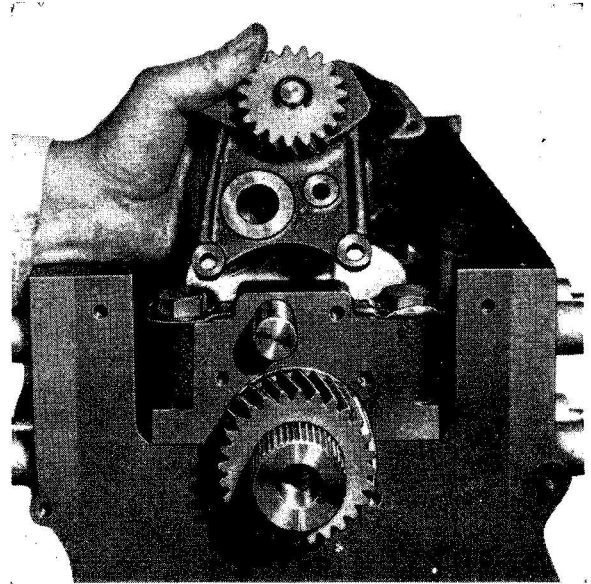

Fig. 7
7. Remove the three setscrews securing the pump to No. 1 main bearing cap and withdraw the pump from the cap (Fig. 7).